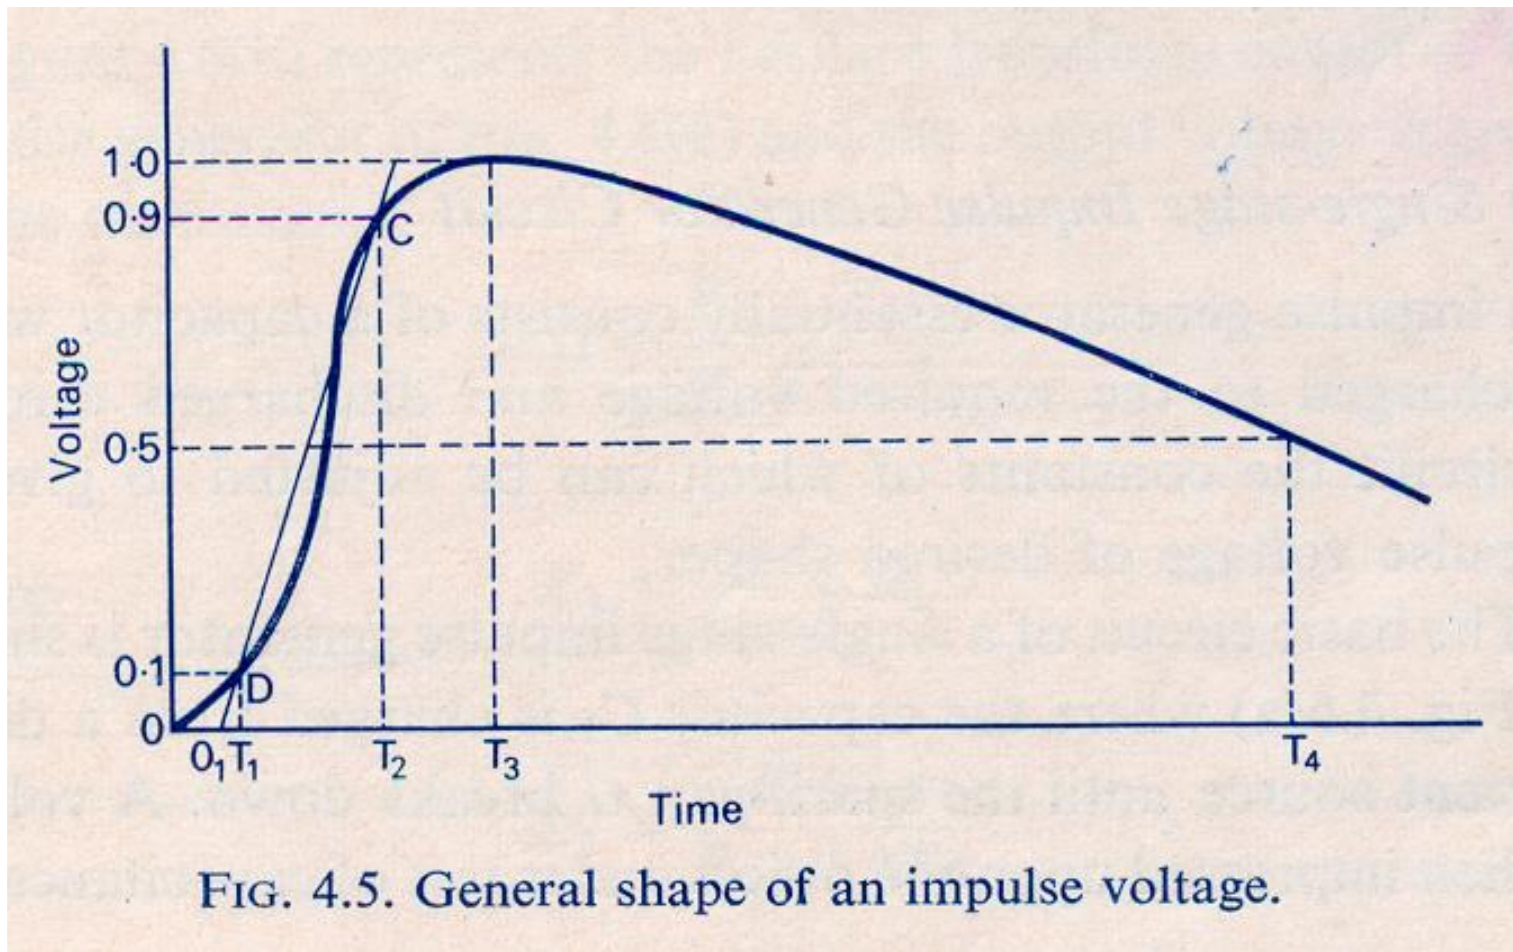

FIG. 4.5. General shape of an impulse voltage.
- **Fig 4.5** shows the Shape of an impulse wave where the nominal wave front duration t_1 is specified as